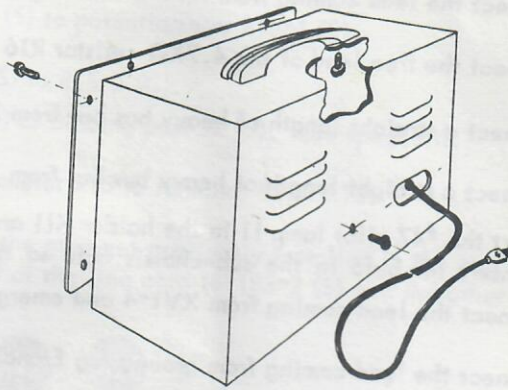

Fig. 11
- 11) Mount the handle on the cabinet with two #10-24 screws as shown in Fig. 11.
- 12) Run the a-c line cord through the rear cabinet opening and insert the completed unit in the cabinet. Align the hole in the cabinet rear and the hole in the rear chassis apron and insert 1 #6 P.K. screw. Then align the 8 panel holes with the corresponding holes in the cabinet flange and insert 8 #6 P.K. screws. Tighten all screws. See Fig. 11.